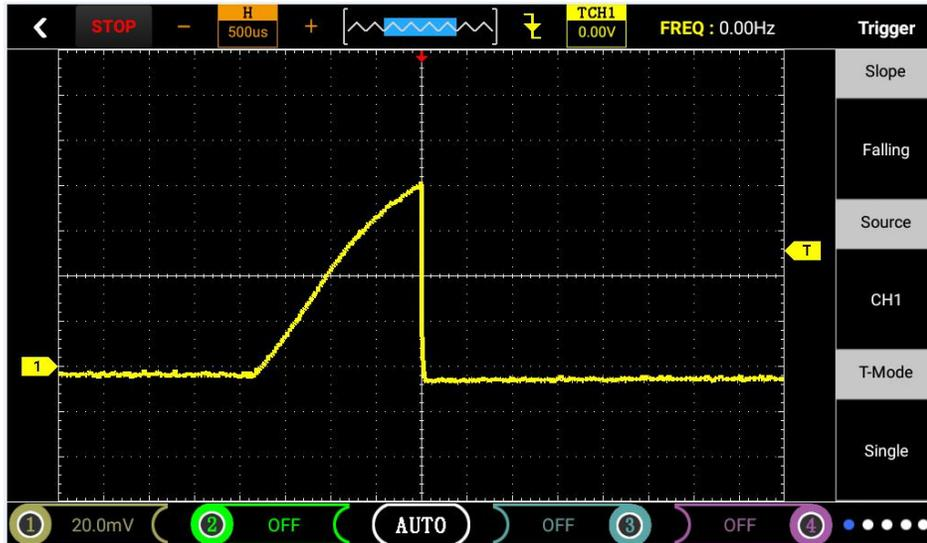

Figure 3
③ Connect the probe to the oscilloscope CH1 and set the probe to 10X. The ground clamp is then connected to the signal ground or the lapping iron.
④ As the oscilloscope primary ignition has the default Settings (probe file 10 x, time base file 1 ms, vertical amplitude, 50 v), only need to connect the probe needle ignition coil can be intuitive display waveform As shown in figure 3 (when waveform shaking changes too fast to catch, you can set the trigger mode to normal trigger again to check).